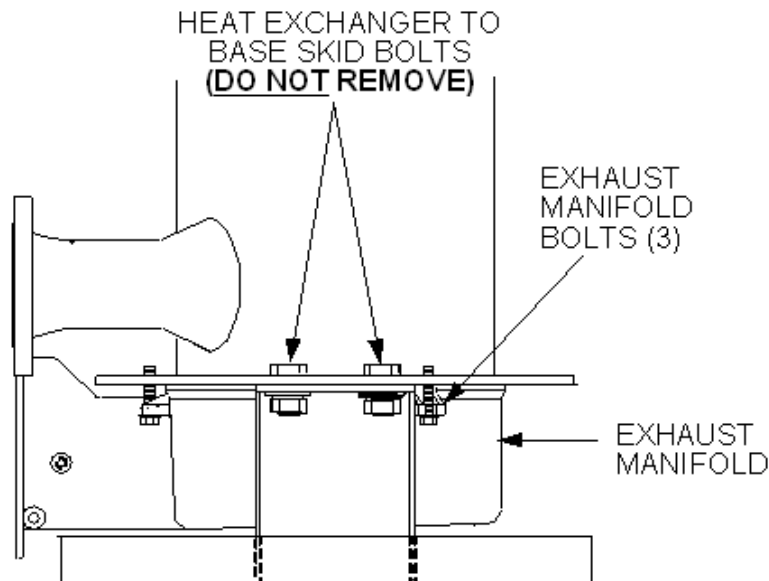
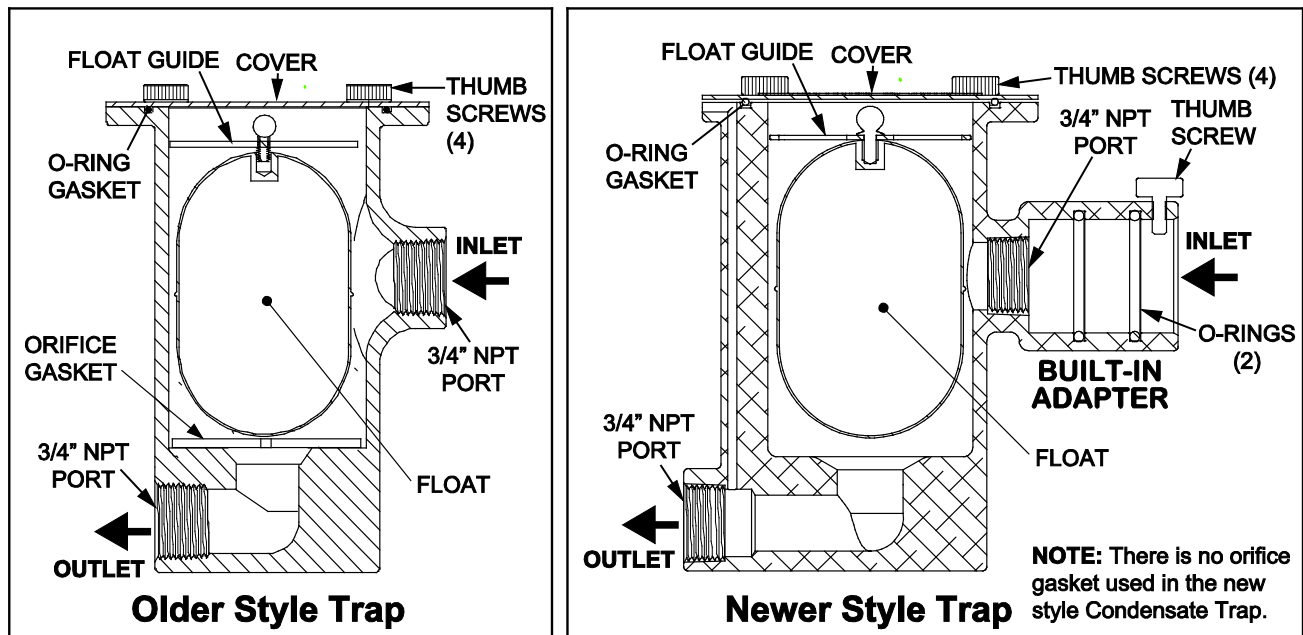

Figure 7: Benchmark .0LN (Venturi Design) Exhaust Manifold Location
Figure 9: Condensate Trap P/N 24060 (Old and New Styles)
The Exhaust Manifold (Figure 7) must be inspected and cleaned, and the Condensate Trap (P/N 24060) (Figure 9), must be inspected, cleaned, and some parts replaced from the kit.
3. Using a 3/4" socket wrench, remove the three bolts securing the exhaust manifold to the heat exchanger (Figure 7).
2. Refer to Figure 9 and loosen the four (4) thumbscrews securing the cover on the Condensate Trap. Remove the cover.
5. For **Old Style** Condensate Trap, remove, discard, and replace the currently installed orifice gasket from the trap with the one provided in the kit (Figure 9). The **New Style Trap** does NOT use an orifice gasket, so this step is not necessary for that type.